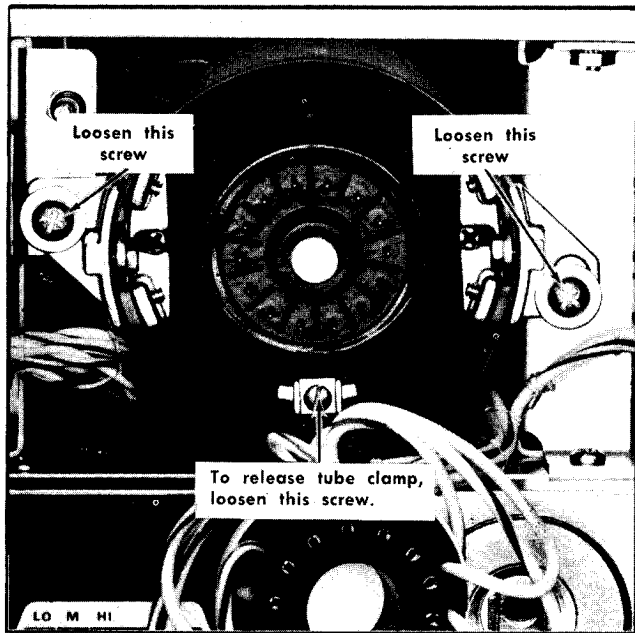

Fig. 4-12. Removing the CRT assembly,
4. Remove the two (2) nuts and graticule light holders which secure the front of the CRT shield to the subpanel. Remove the graticule lights from the studs and position them out of the way.
5. Remove the two phillips-head screws that hold the two right angle mounting brackets at the base of the CRT shield. See Fig. 4-12.